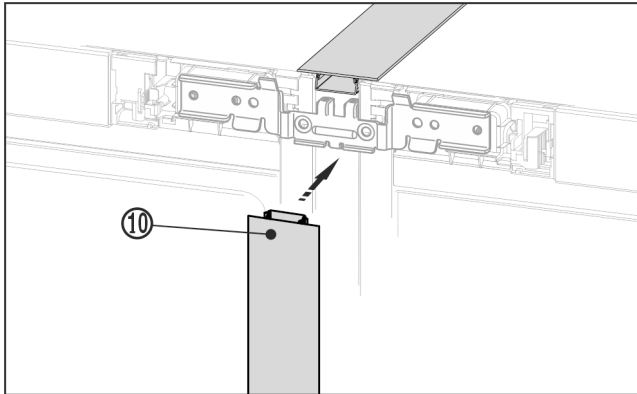

Fig. 24
- ▶ On the front, press the long cover strip Fig. 24 (10) into the vertical gap. Ensure that the strip rests on the connecting plate.